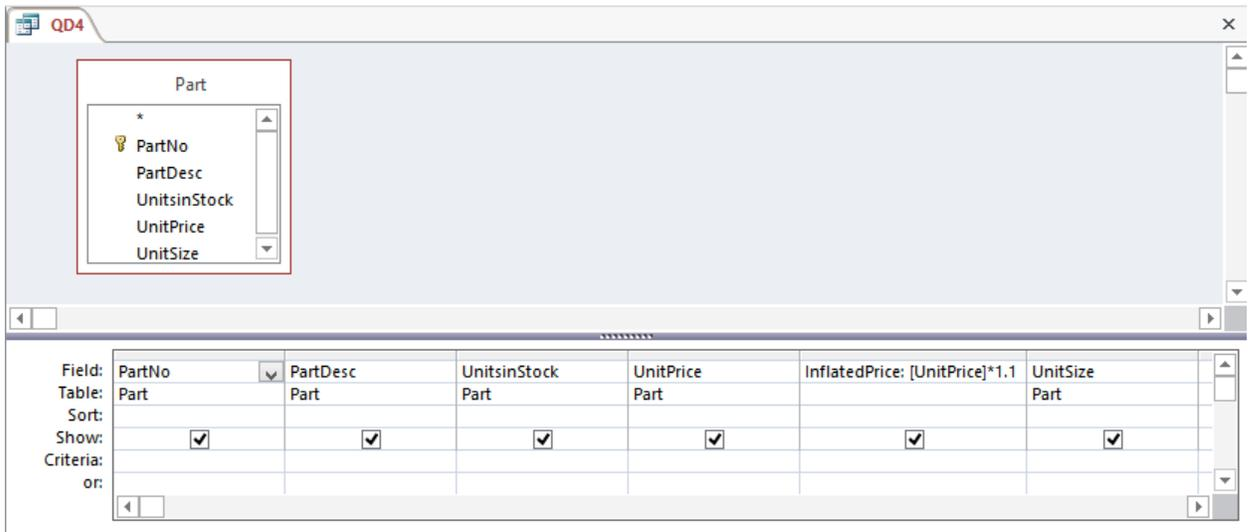

Figure 21: Completed "QD4"
When you are finished, click **OK**. Your *UnitPrice* field in design view should now appear as Figure 21. If you scroll in the cell, you can see the entire expression that you typed.
8. Open the Query Design Window: Next, open “QD5” in design view. It should appear on your screen the same as “QD4” (refer back to Figure 21).